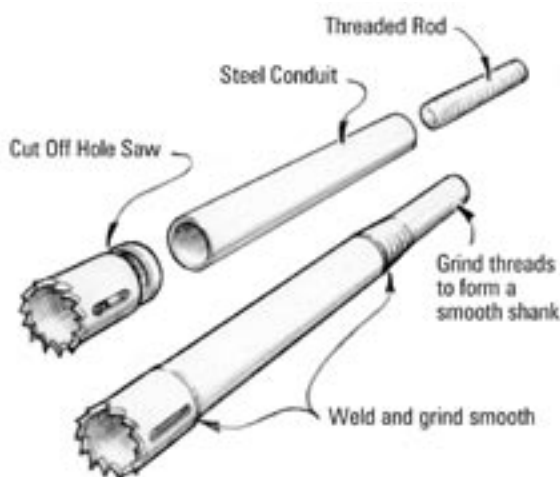

Figure 5-13 A custom keel bolt saw can be built from a pipe section and a standard hole saw.
2. Fabricate a deep engagement hole saw by first cutting the end off a hole saw of slightly larger diameter than the bolt to be repaired. Braze the hole saw teeth to the end of a pipe of the same diameter and long enough to chase the length of the longest keel bolt. Weld a piece of round stock into the other end of the pipe to serve as a bit for a drill chuck. If there are many bolts of many lengths to do, it may well be advisable to make several hole saws of different lengths (*Figure 5-13*).